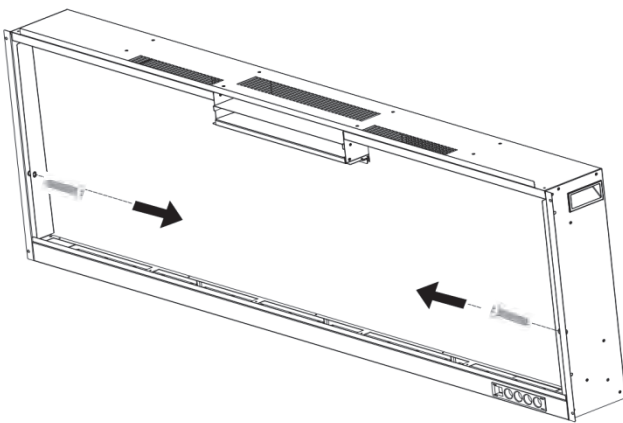

Fig. 2-1
- A. Take off the screws (1 per side) from the sides of the fireplace. Set the screws aside. (**Fig. 2-1**)